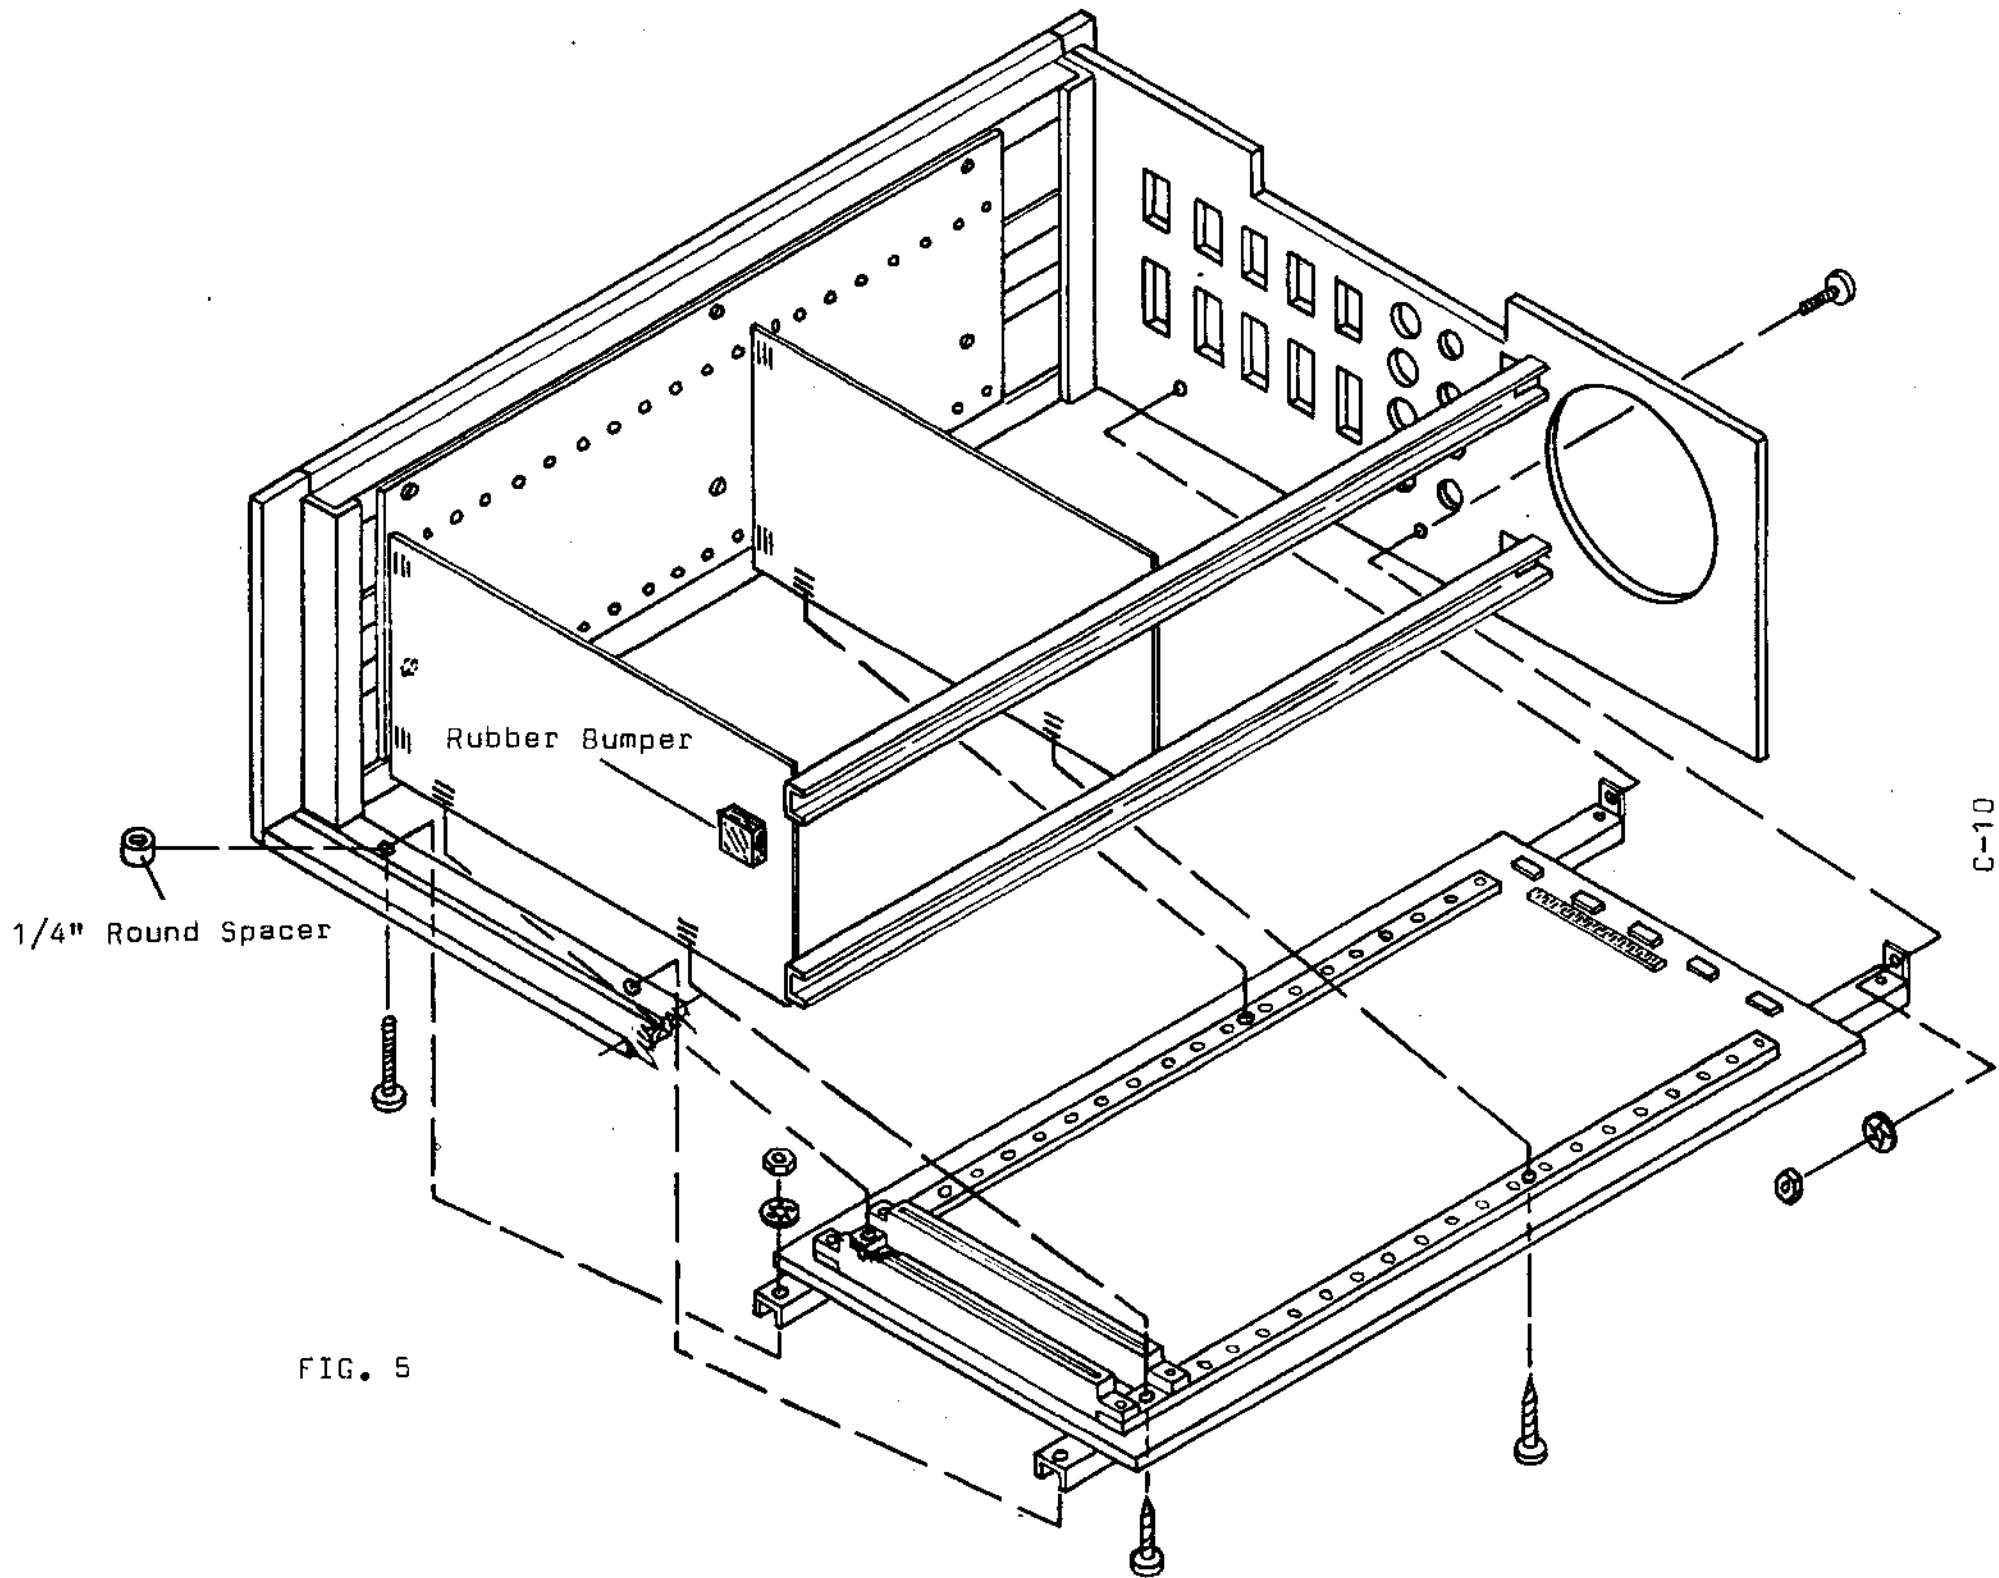

FIG. 5
- ( ) Referring to Fig. 5, position the bus-board into the cabinet. The front support plate goes between the first and second edge connector locations on the bus-board. The front of each of the two bus-board extruded rails goes on top of the front lower rail of the cabinet.
- ( ) Peel the backing paper from the rubber bumper. Position the bumper on the front support plate as shown in Fig. 5 and press it firmly in place.